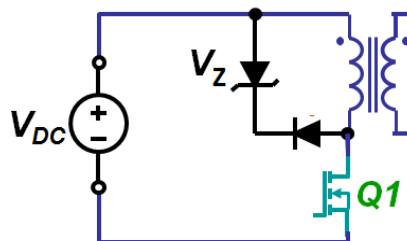

Figure Q15
15. If $V_{DC} = 150V$ and Q1 has a maximum voltage rating of 220V, what would be the appropriate breakdown voltage V_Z value of the Zener diode used in the following circuit shown in Figure Q15?